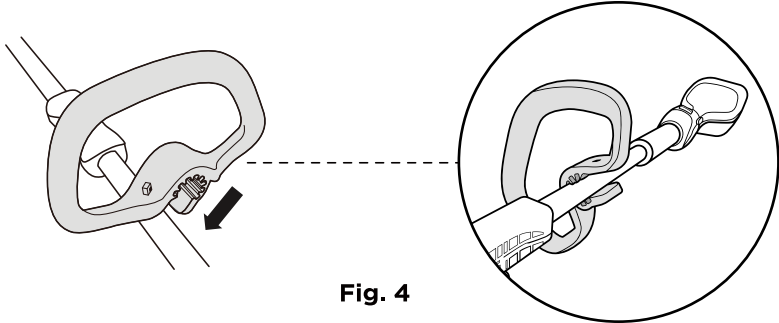

Fig. 4
- Clip the auxiliary handle at the appropriate position on the upper part of the shaft as shown, the position can be adjusted according to personal customs.(Fig. 4)